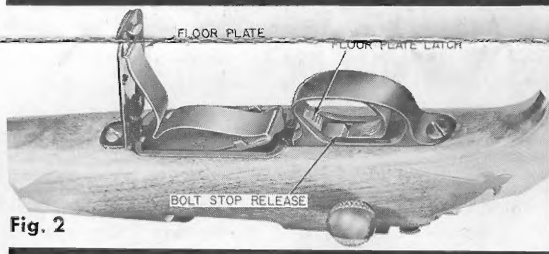

Fig. 2
For BDL Grade, cartridges load in same way or close bolt and load from bottom of magazine. Push safety ON SAFE and turn rifle bottom upwards. Press floor plate latch to release floor plate (Fig. 2). Lift floor plate with attached follower and spring and load cartridges into magazine opening. Close floor plate and snap floor plate into position.
**BARREL CARE** — Use lightly oiled patch, cleaning from breech to muzzle. Remove bolt to make cleaning easier. Press upwards on bolt stop release (Fig. 2) and pull bolt from receiver. Scrub bore with cleaning solvent if necessary.